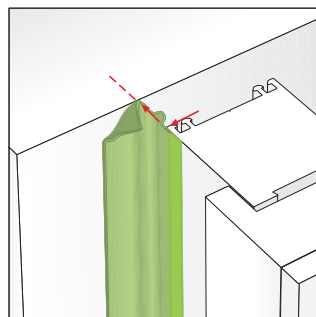

Fig 2: Positioning of the butyl strip
- Ensure that the membrane is located as in fig 2 after applying FM230 Pro Foam Window (if required). If necessary, prime the reveal area where the butyl adhesive will be located with ME901 (brushable) or ME902 (spray) Butyl & Bitumen Primer.